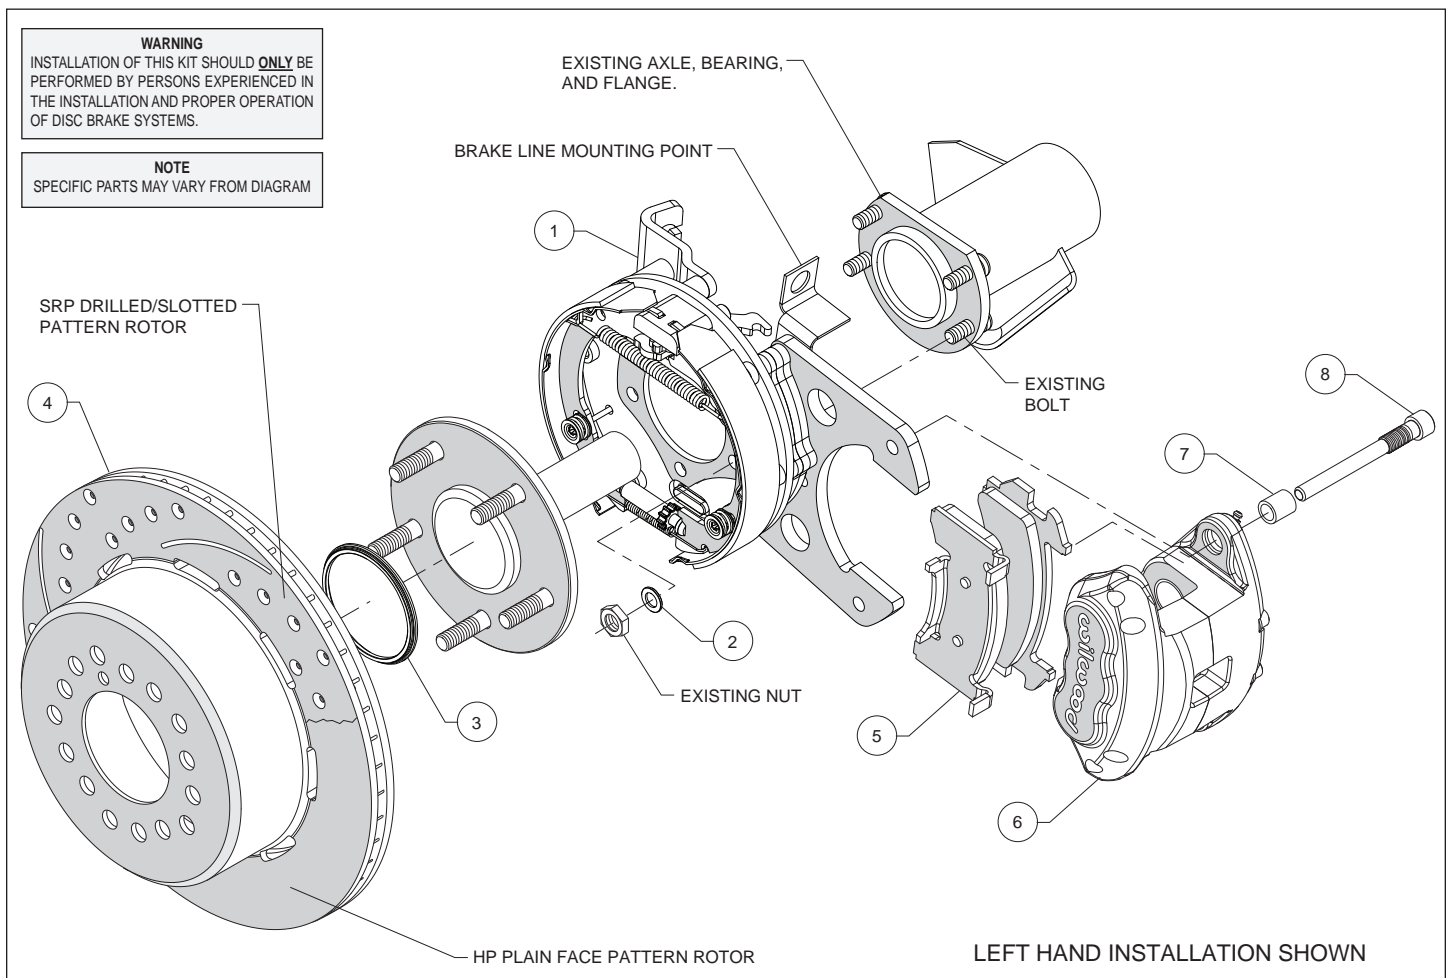

Figure 1. Typical Installation Configuration
Assembly Instructions (numbers in parenthesis refer to the parts list, and Figure 1 on the preceding pages): **CAUTION:** All mounting bolts must fully engage threaded holes.
- Orient the bracket assembly (1) as shown in Figure 1, and mount to the axle housing flange using the Original Equipment Manufacturer (OEM) bolts and nuts, while adding washer (2), Figure 1. Ensure that the bracket assembly backing plate fits flush against the axle housing flange. Apply red *Loctite*® 271 to the OEM bolt threads and torque to OEM specifications.
- Slide the rotor registration adapter (3) onto the axle register on the axle flange with the smaller O.D. facing toward the rotor/hat (4), Photo 1. Align the correct hole pattern in the rotor/hat with the stud pattern on the axle flange and slide into place, Figure 1 and Photo 2. **NOTE:** The rotor/hat must fit flush against the axle flange or excessive rotor run out may result. Install three lug nuts (finger tight) to keep the rotor/hat assembly in place while continuing with the installation. **NOTE:** Some OEM and after market axles come with stud sizes larger than 0.50" diameter. Verify stud size and have a qualified machine shop drill the bolt circle of the hat/rotor to the correct stud size, if necessary.
- Install the disc brake pads (5) into the caliper (6) with the friction material facing the rotor, as shown in Figure 1 and Photo 3.
- Install sleeves (7) onto slide pin bolts (8). Apply white lithium grease (available from your local auto parts store) to the slide pins/sleeves, as shown in Photo 4. **Do not apply to threads.** Mount the caliper (6) onto the mounting bracket (1) using slide pin bolts, as shown in Figure 1. Torque to 35 ft-lbs.
- **NOTE:** The caliper in this brake kit utilizes a 10mm x 1.50 thread inlet. This kit includes flexline kit P/N 220-12630. Brake fluid hard lines on the vehicle will need to be routed to the supplied line mounting point for the new brake kit, see Figure 1 and Photo 5. Hose kits include hoses, fittings, banjo bolts, etc. all in one package for use with this caliper. **Carefully route hoses to prevent contact with moving suspension, brake or wheel components.** **NOTE:** Wilwood hose kits are designed for use in many different vehicle applications and it is the installer's responsibility to properly route and ensure adequate clearance and retention for brake hose components.